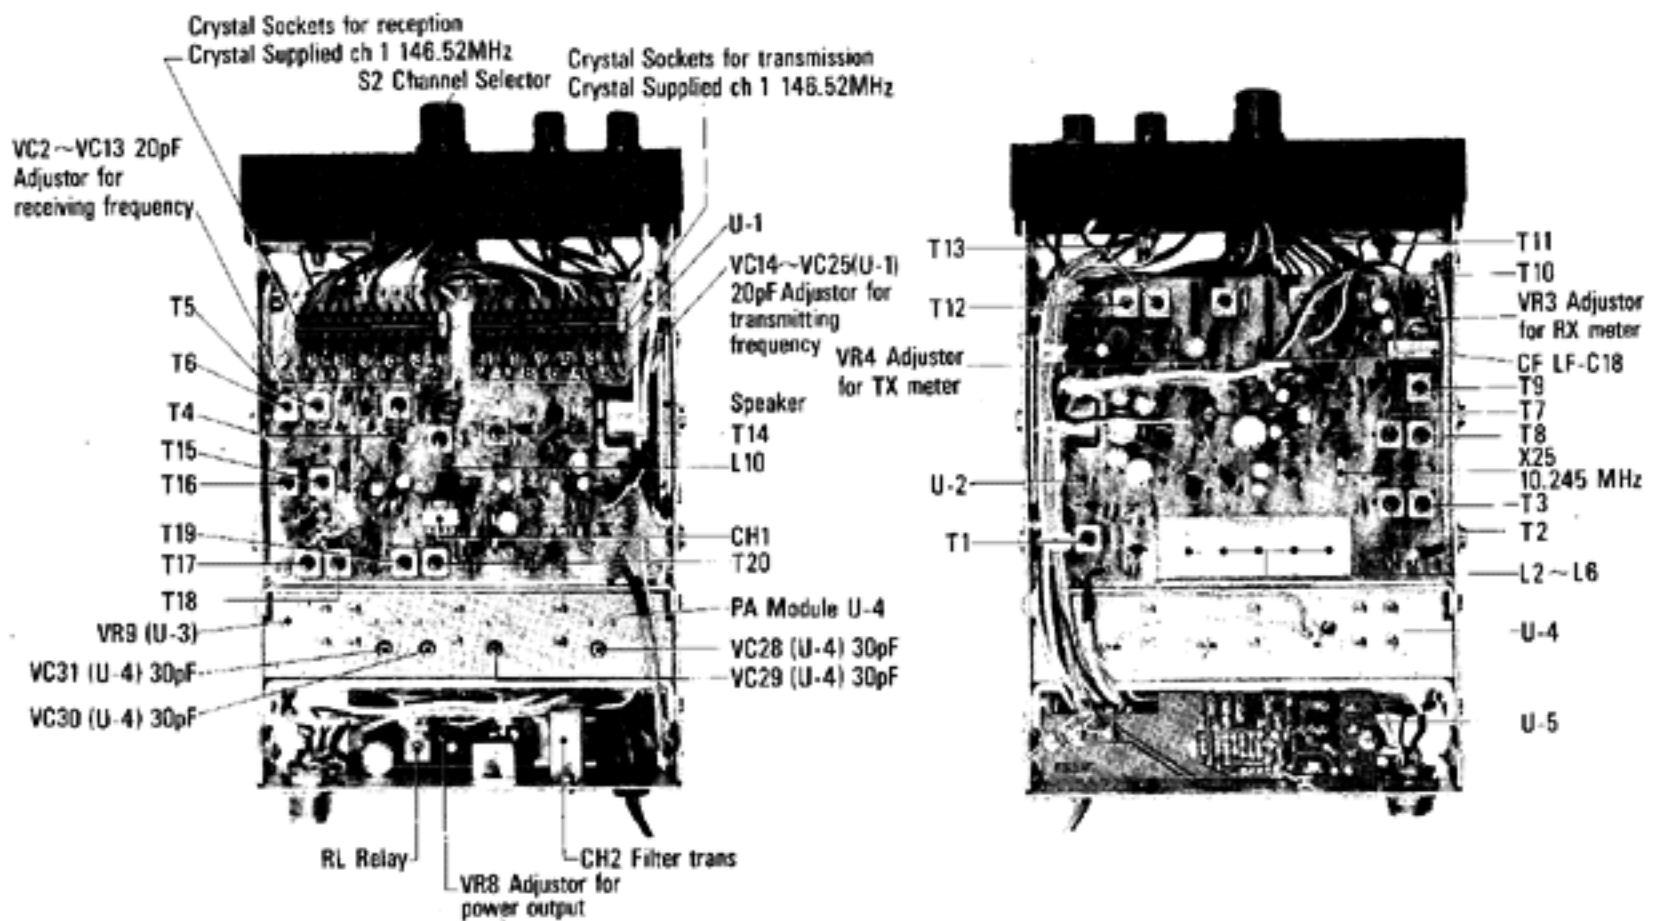

FIG. 1
Trimmers have been placed on the crystal board to assist you in adjusting new crystals on frequency. Consult the trimmer location chart (Fig. 1) for their positions.
- d. To align the transmitter on a desired frequency, switch the channel control to the desired channel. Slowly adjust the trimmer capacitor for that channel until the desired frequency is achieved. Consult Fig. 1 for the location of the proper trimmer. These trimmers should be adjusted very slowly while the transmit frequency is observed on suitable measuring equipment. Another MARK 3 equipped with a discriminator meter can serve well for this purpose. However, it must be adapted.
- e. When setting the receiver to a desired frequency, a discriminator meter should be connected to Accessory plug and the receiver trimmer capacitors adjusted to cause the S meter to read a maximum and the discriminator meter to read zero. Refer to Fig. 1 for the location of the proper trimmer corresponding to discriminator meter.